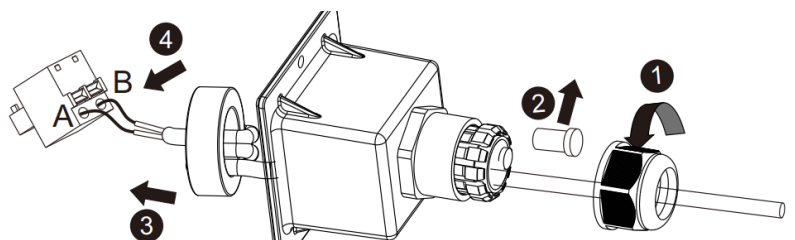

Fig. 27: Routing line through terminal
3. Release the forcing nut (Pos. 1) of the cable fitting at the terminal (See Fig. 27).